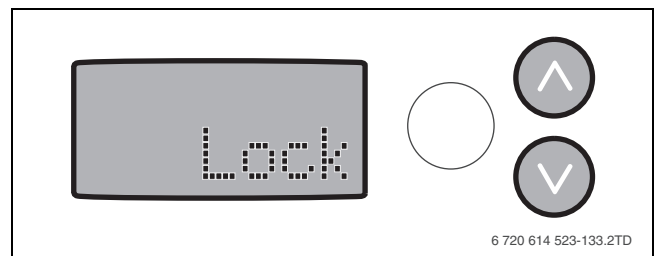

Fig. 64 Display - Lock
- The word “Lock” is displayed for 5 seconds (→ figure 64). The information menu remains readable.